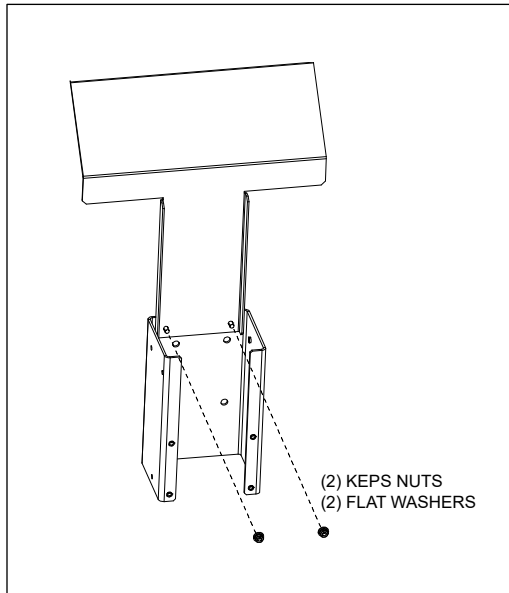

Figure 6
1. Attach the heat deflector panel to the inside surface of the power supply bracket using two Keps nuts and two flat washers (Figure 6).